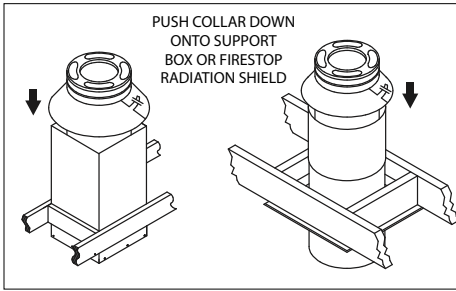

Figure 10
DuraPlus HTC uses either a tall Cathedral Ceiling Support Box with an Attic Insulation Collar or a Firestop Radiation Shield with its own Collar to act as an attic insulation shield (**Fig 10**). If needed, the Attic Insulation Collar can be trimmed to fit between framing members, as long as it still covers the Support Box or Firestop Radiation Shield. The Support Box or the Firestop Radiation Shield must be
- c. Secure the telescoping Firestop Radiation Shield in place with at least (2) sheet metal screws. Verify the telescoping shields overlap at least 1".
- d. Wrap the Attic Insulation Collar or Firestop Radiation Shield Collar around the chimney and fasten it loosely. Slide the Collar down to meet the Firestop Radiation Shield or Cathedral Ceiling Support Box. Slip the tab through the adjacent slot and fold it back to tighten and secure the Collar (**Fig 10 & 11**).